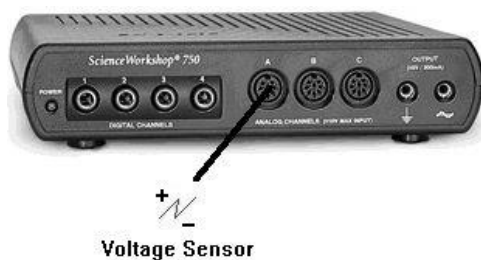
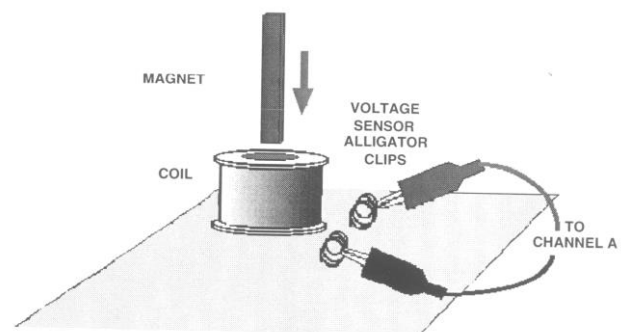

Fig. 1
Fig. 2
2. Using the cable provided, connect the voltage sensor to the Analog Channel A on SW750 interface, by inserting the 8-PIN jack into the socket on the interface, such as Figure 1. Put the two alligator clips on the other end of the voltage sensor across the coil, as Figure 2.
3. As the installation of Figure 2, allow the bar magnet dropped through the coil on circuit board smoothly. However, do not touch the inner wall of coil. (Make sure that coil does not strike the floor, or it may break! And do not let the bar magnet near computers or monitors, otherwise it will cause damage)